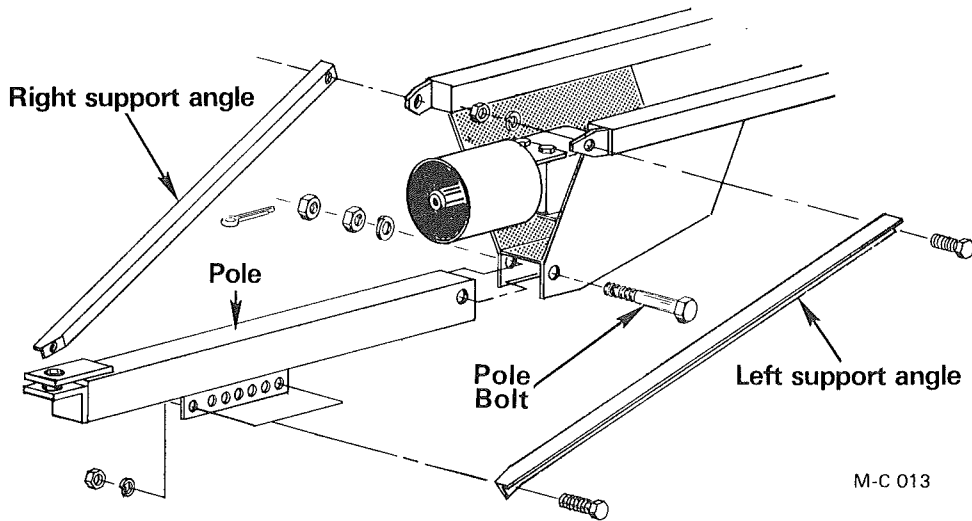

Figure 5
1. Lift the front of the Shredder with a chain hoist and place the pole in position under the gear box and install the pole bolt, lockwasher, hex nuts and cotter pin, see Figure 5 and 6.
2. There are seven pole support angle mounting holes on each side of the pole, see Figure 5 and 6. Select the position that will set the pole at the correct tractor drawbar height and keep the Shredder body as level as possible (see note). Secure the pole support angles with four  $\frac{3}{4}$ " - 10 x 2" (Grade 5) hex-head capscrews, lockwashers and nuts.